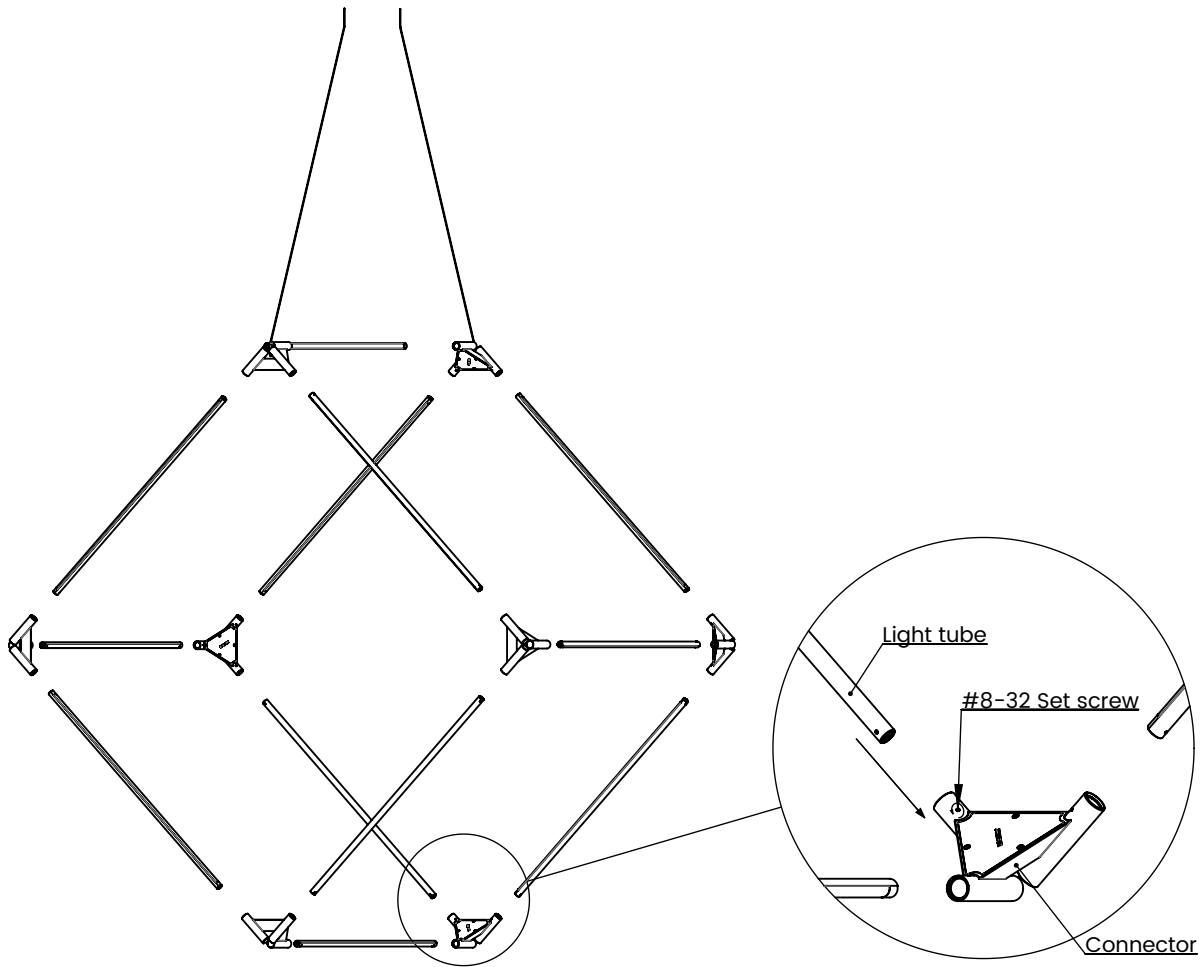

FIGURE 8
2. Insert the first light tube into the connectors and **tighten the set screws on the connectors** as shown in figure 8.